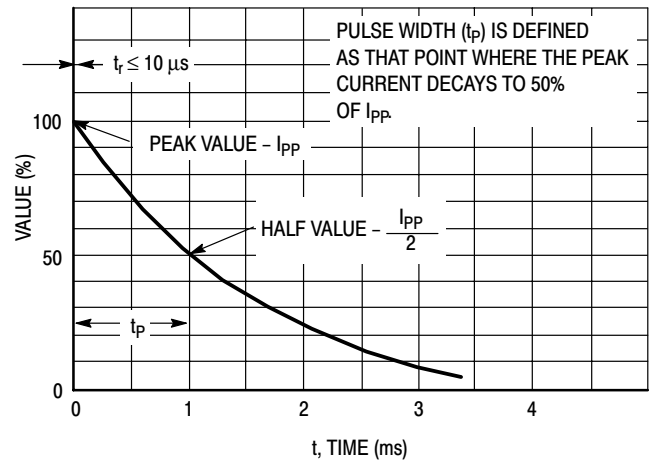
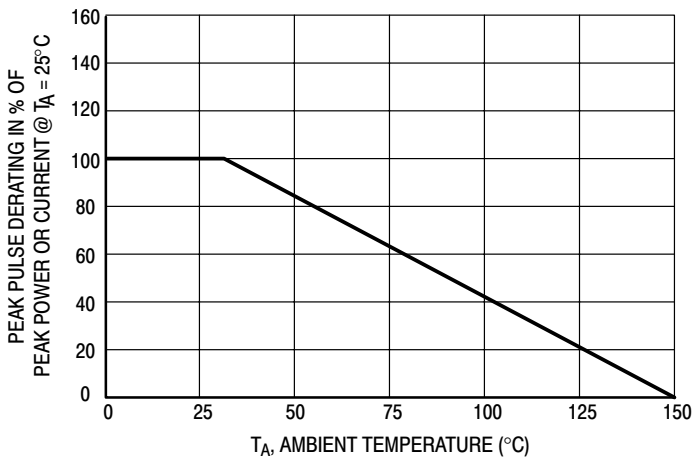

Figure 2. Pulse Waveform
Figure 3. Pulse Derating Curve
- Surge current waveform per Figure 2 and derate per Figure 3 of the General Data – 1500 Watt at the beginning of this group.